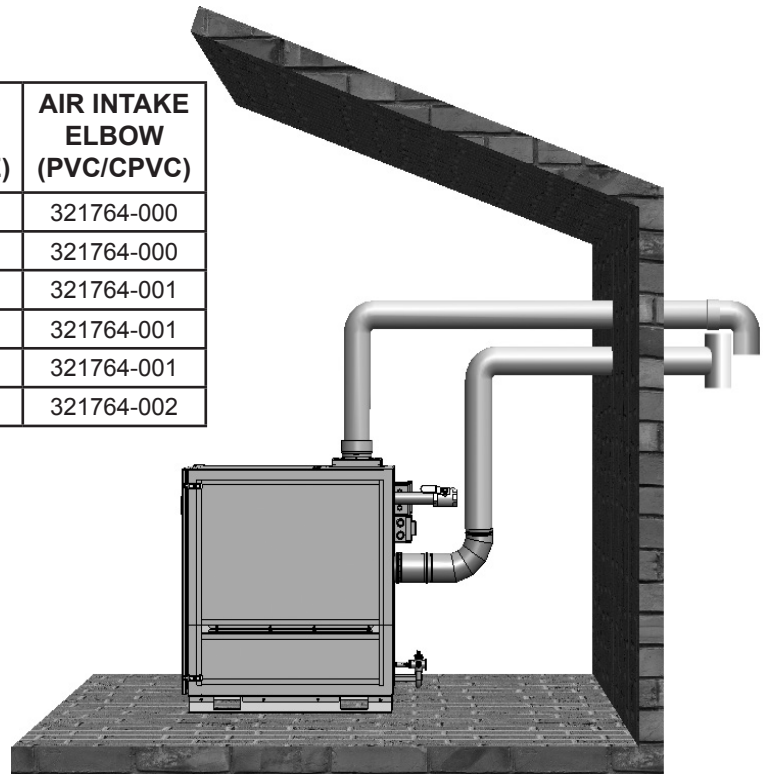

FIGURE 26. DIRECT VENT HORIZONTAL
3. **Horizontal Direct Vent** - using TWT to exhaust flue products and PVC piping to bring combustion air to the boiler from the outside. See Figure 26 on Page 30 and Figure 29 on Page 31.